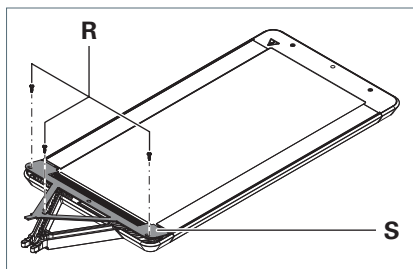

Fig. 5: Luminaire head- removing the cover.
1. Unscrew the screws **R** from the cover **S**, see Fig. 5.